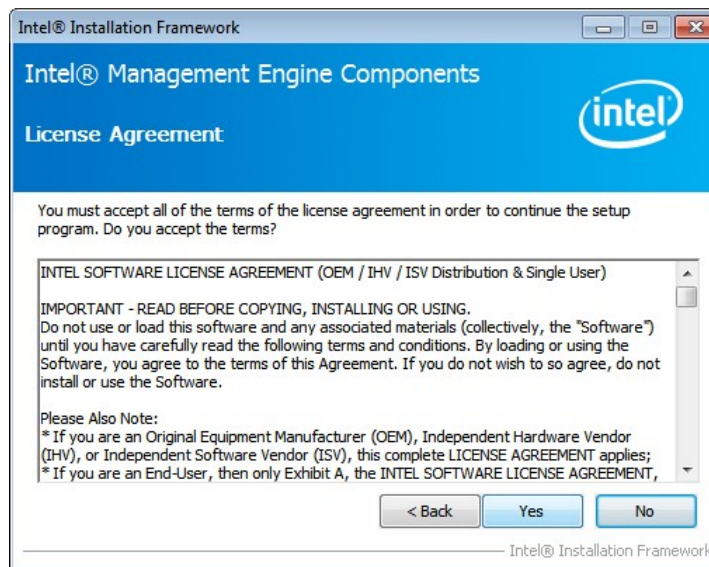

Figure 6-33: Intel® ME Driver License Agreement
Step 6: The license agreement in **Figure 6-33** appears.